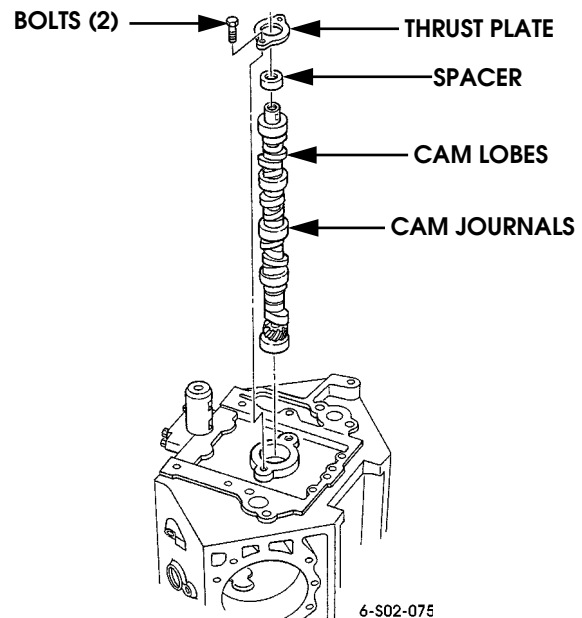

Figure 2-189: Camshaft Installation
5. Install camshaft. Lower and guide cam carefully through and into bearings (Figure 2-189).